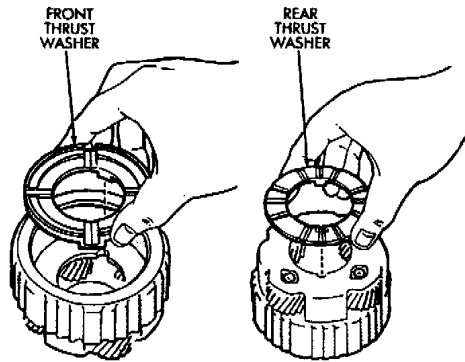

Fig. 9 Removing/Installing Rear Planetary Thrust Washers
- (4) Coat planetary thrust washers with petroleum jelly and install them in gear (Fig. 9).